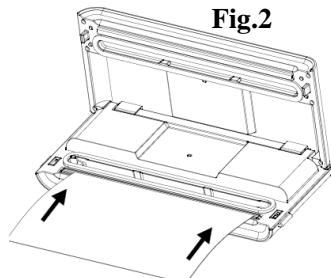

Fig.2
3. Place one end of the bag on top of the sealing strip, but do not insert it into the vacuum chamber – **Fig. 2.**